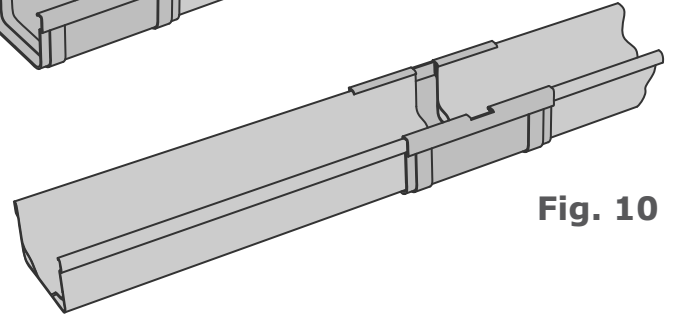

Fig. 10
6.2. Repeat for the second gutter end (Fig. 10).